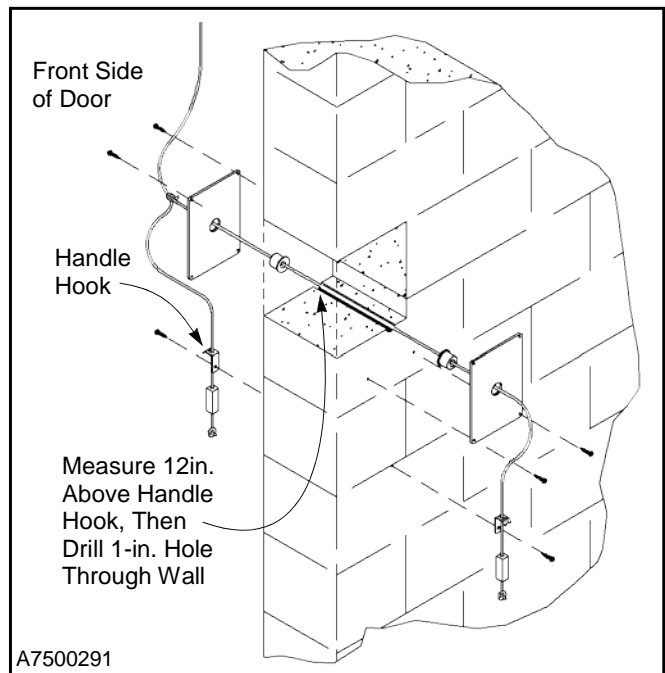

Figure 40
5. Drill a 1-in. hole through the wall 12in. above the handle hook. (See Figure 40.)